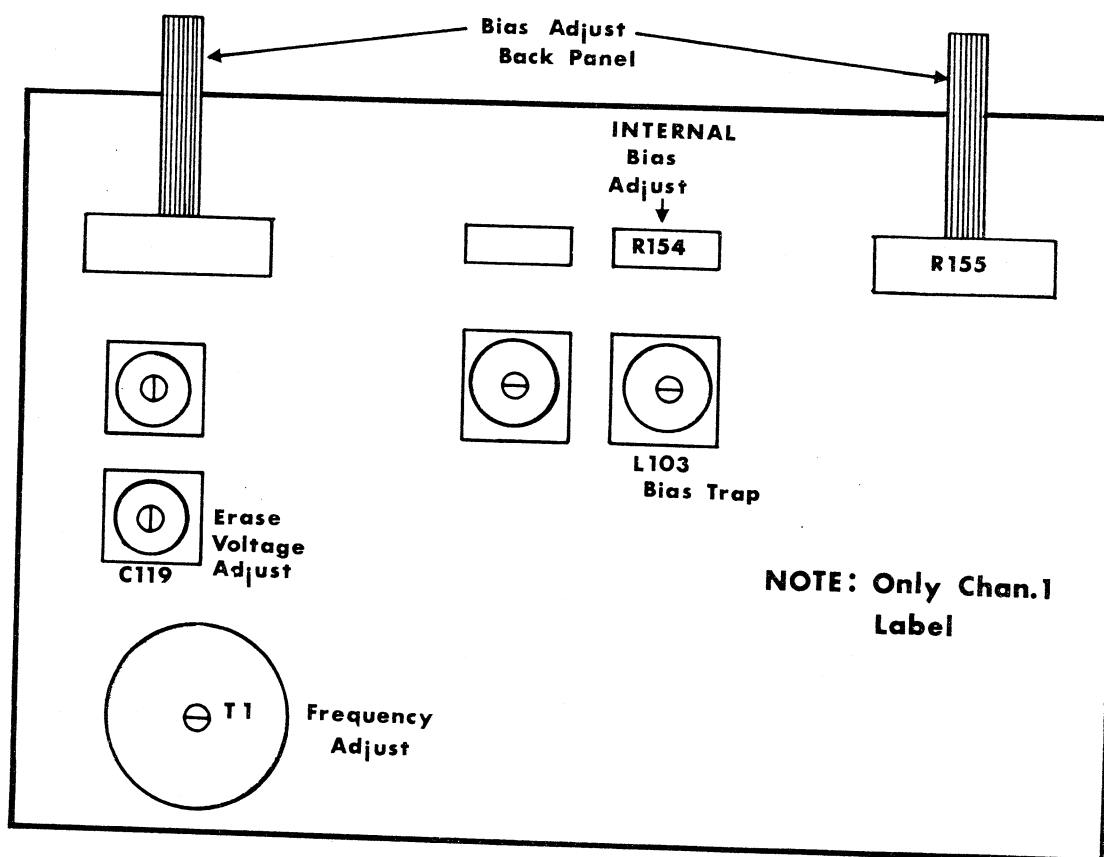

FIG. 10-10 OSCILLATOR BOARD OUTLINE
- A. Set oscillator to 100KHz \pm 5K-O, (slug of T-1 on OSC board) (See fig. 10-10).
1. This can be done by connecting the audio voltmeter to the Q107 side of the record level control (R151 on Main Board) and adjusting the bias traps L103 (See fig. 10-10, and 10-11).